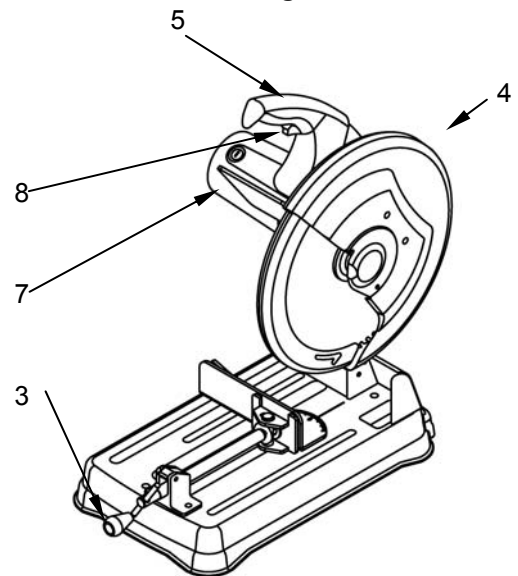

Fig.6
3. Quick Vise- Clamp the workpiece can be accomplished quickly and easily as shown Fig. 6.
4. Upper Guard- This guard helps protect your hands from blade in the raised position. To avoid binding on the workpiece, it retracts as the power-head is lowered as shown Fig. 6.
5. Handle- The handle contains the trigger switch with a lock button (see #8 for illustration). The blade can be lowered into the workpiece by pushing down on the handle. The saw will return to its upright position when the handle is released unless the hold down (#2) is hooked as shown Fig. 6.
7. Protection Plate- To protect our eyes been injured from the spar and iron filings occurred while cutting materials as shown Fig. 6.
8. Switch- To turn the saw "ON" depress switch trigger To turn the saw "OFF", release switch trigger as shown Fig. 6.